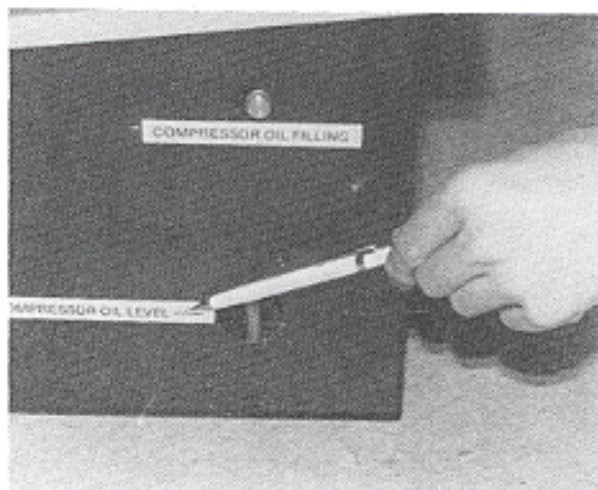

Fig.3
- The compressor oil level must be identical with the level on the left handside of the compressor (fig 3).